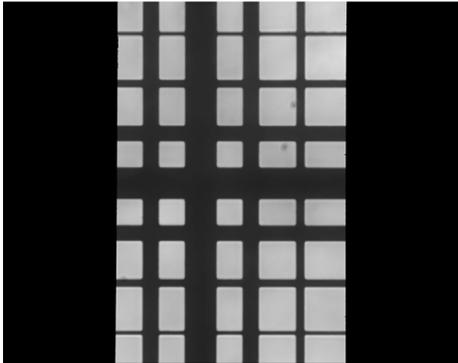

Figure 12. Image of the grid in the center of the image field. You can see that the grid is properly oriented because the lines are horizontal and vertical.
- a. If your microscope stage has rotation adjustments, rotate the grid until the lines are horizontal and vertical in the image (**Figure 12**).
- b. If your microscope stage does not have rotation adjustments, loosen the screws of the microscope C-mount adapter and rotate the microscope C-mount adapter with the DV2 attached until the lines are horizontal and vertical (**Figure 12**).